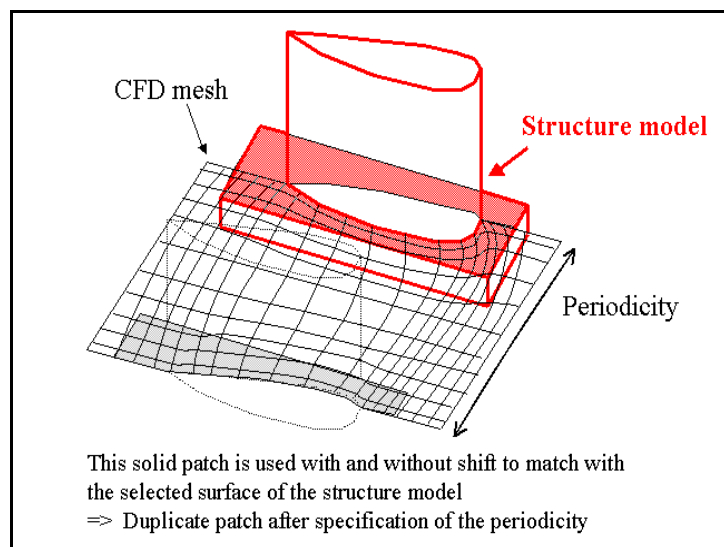

FIGURE 10.2.5-16 Duplicate Option Utility
Finally, the new output file can be created by clicking on the *Create Output File* button (Figure 10.2.5-12 - (5)).